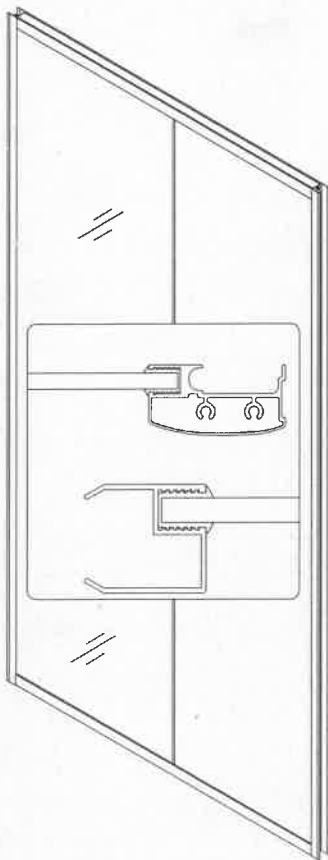

Fig3
3. Push the **Stationary glass panel (03)** into **Glass profile (05)** groove, and **guide rails (02)** with **U-strip (12)** in between. See Fig 3 for details.